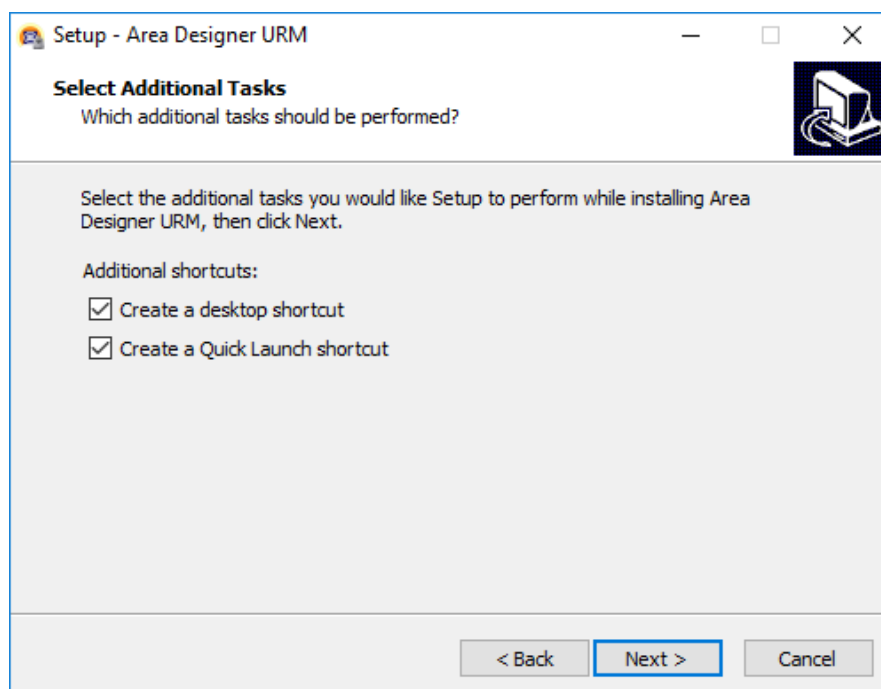

Figure 2-5 Select additional tasks
7. As shown in figure 2-5, click next then installation of “Area Designer” will start.